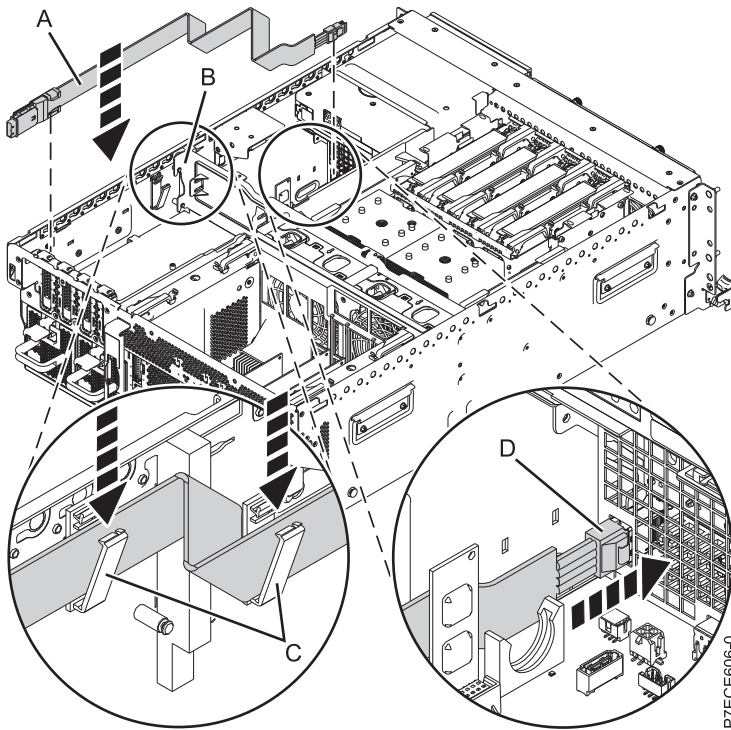

Figure 136. Replacing the SAS cable
4. Install the new SAS cable, see Figure 136 on page 154.
- b. Open the cable clamp (C) on the side wall, placing the cable (A) through the clamp. The cable clamp opens from the top.
- c. Close the cable clamp (C) and continue to slide the cable towards the SAS connection on the system backplane.
- d. Push the SAS shroud (D) into the SAS connection on the system backplane until it snaps in place.